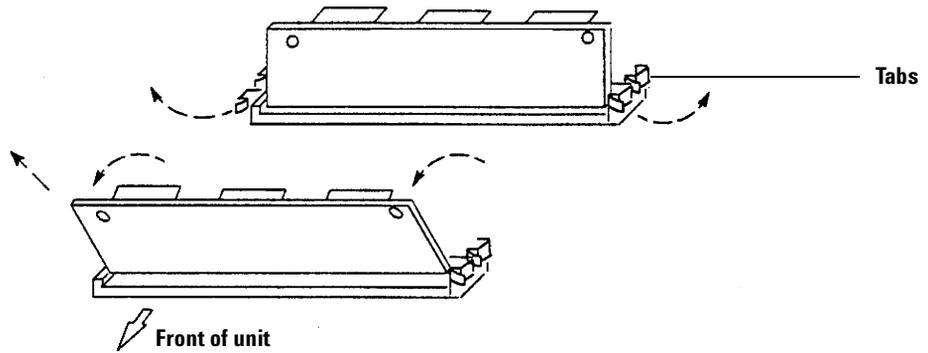

Figure 14 Removing the SIMS memory board
- 2 Push out on the metal tabs holding the board in place. (See Figure 14)
- 3** Tilt the SIMM memory board towards the front of the unit about 45° and slide it out. (See Figure 14)